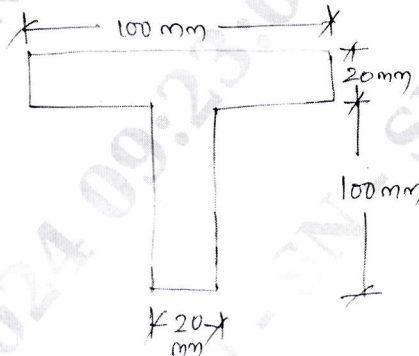

Fig.Q9(c)
- c. The T-section shown in Fig.Q9(c) is used as a beam. It is simply supported on a span of 8m. The beam carries a UDL of 1.5kN/m on the entire length. Determine the maximum tensile and compressive stresses.